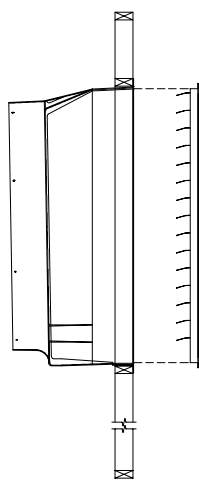
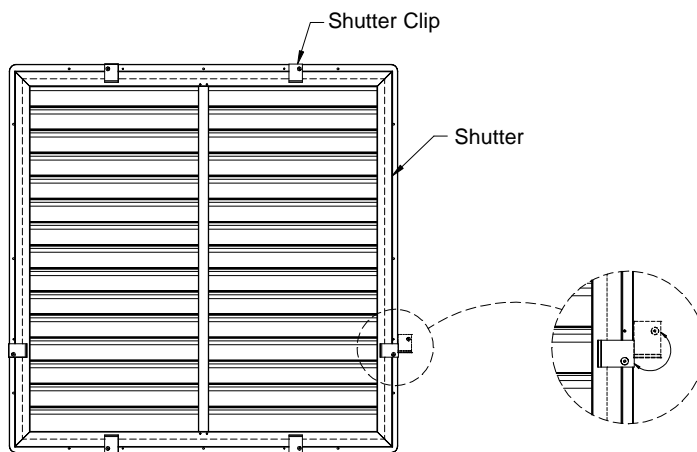

Figure 3
Figure 4
- 4) Insert shutter into fan housing **See Figure 3**. Rotate shutter clips down over shutter flange to secure it in place. Gently push shutter blades open by hand, checking for smooth operation. **See Figure 4**. Installation is now complete.